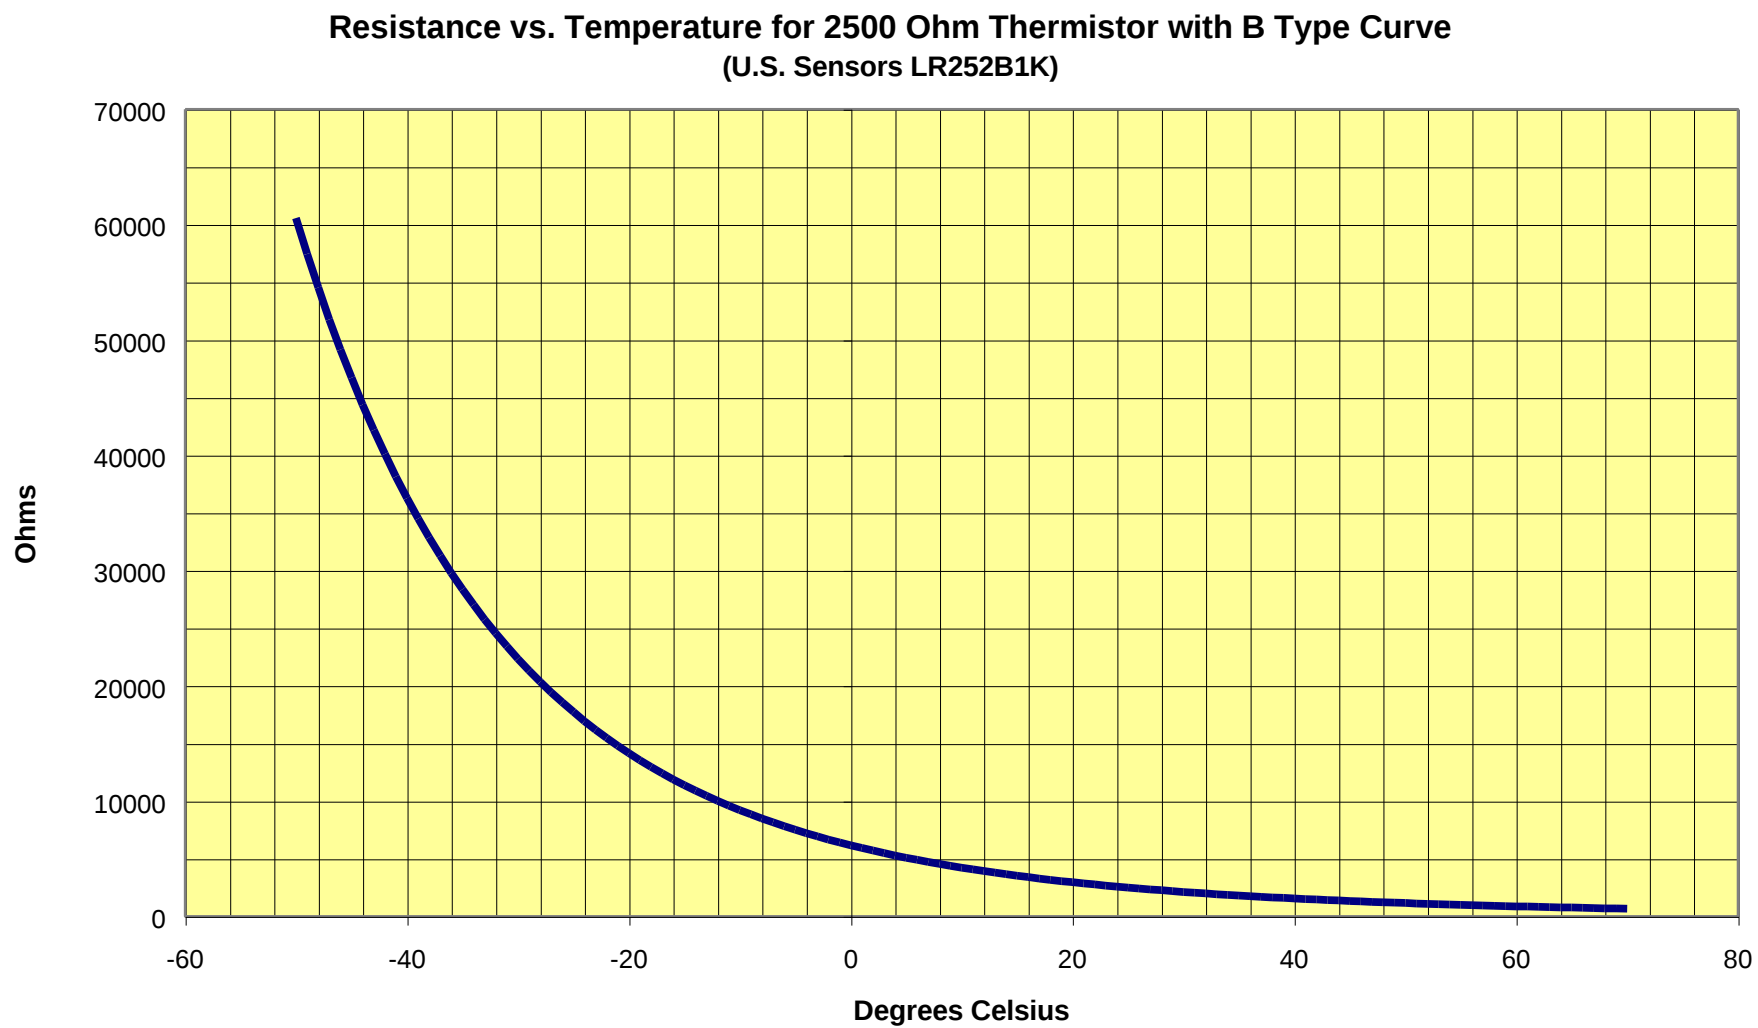
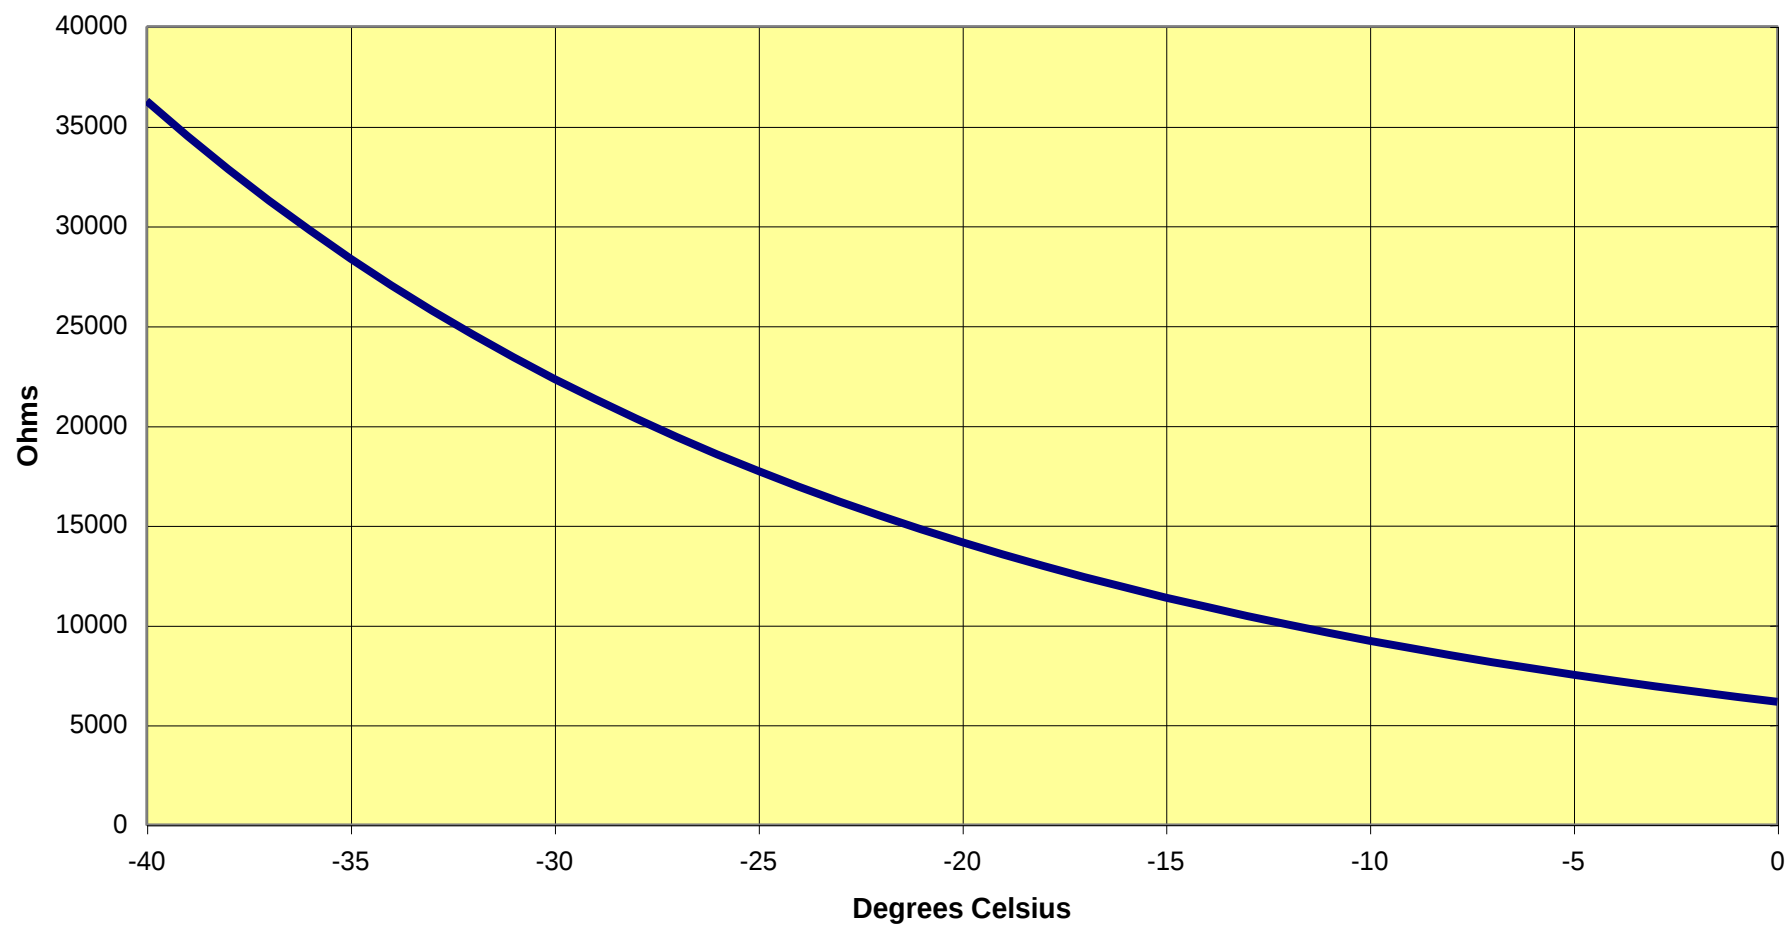

Figure 9. Thermistor resistance vs. temperature, -50° to +70°C
Figure 10. Thermistor resistance vs. temperature, -40° to 0°C
- 1) Measure the thermistor resistance directly using an ohmmeter connected to the “Temperature Excitation” and “Temperature Out” wires, and then convert this resistance to temperature. This conversion may be done with the help of Figures 9, 10 and 11. Figure 9 graphs thermistor resistance vs. the full temperature range of -50° to +70°C. Figures 10 and 11 are enlargements of the regions below and above 0°C.
Note that the value of R25 is 2000 Ohms. As shown by equation 3, the input voltage can vary during your measurements. What is important, however, is that the ratio of the input voltage to the output voltage, V_{in}/V_{out} , be accurately known. Once you have obtained the value of RT3 from equation 3, use Figures 9, 10 and 11 or equation 1 to obtain the internal tiltmeter temperature.